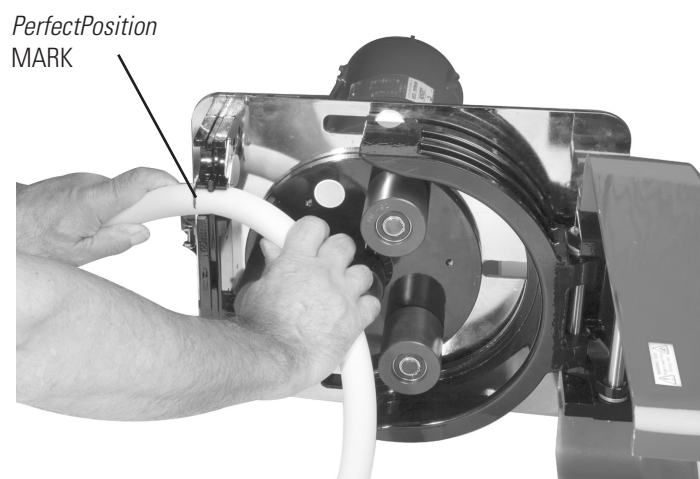
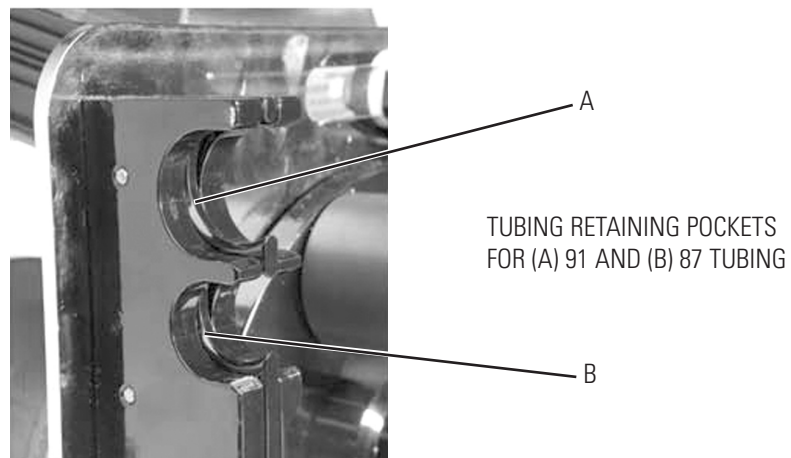

Figure 2-8. Tubing Retaining Pockets
Figure 2-10. Tubing Retaining Pockets
3. Insert the tube in the appropriate upper tube retaining pocket (see Figure 2-10). Line up the "PerfectPosition" placement marks printed on the tube with the outside edge of the retainer assembly (see Figure 2-8).